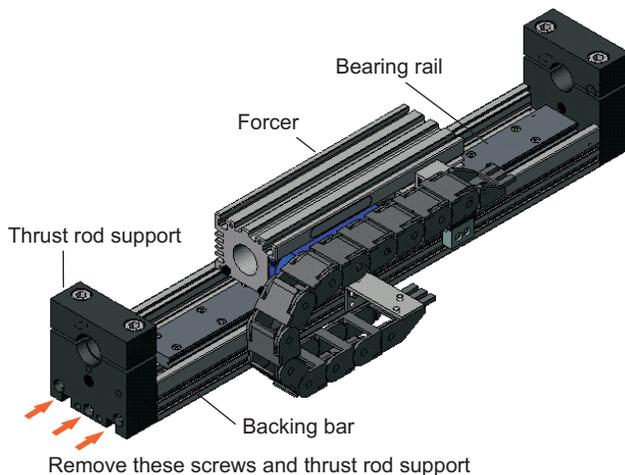
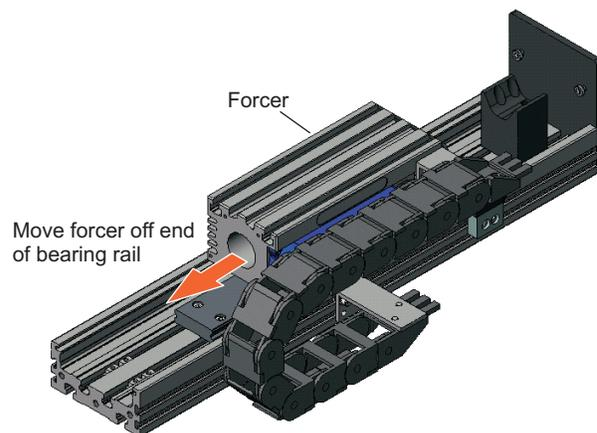

Figure 3.16
Figure 3.17
- For the SM25 or XM38, see Figure 3.16. Remove the three M6 fixings securing a thrust rod support to the backing bar and slide the thrust rod support out of the backing bar, see Figure 3.17.